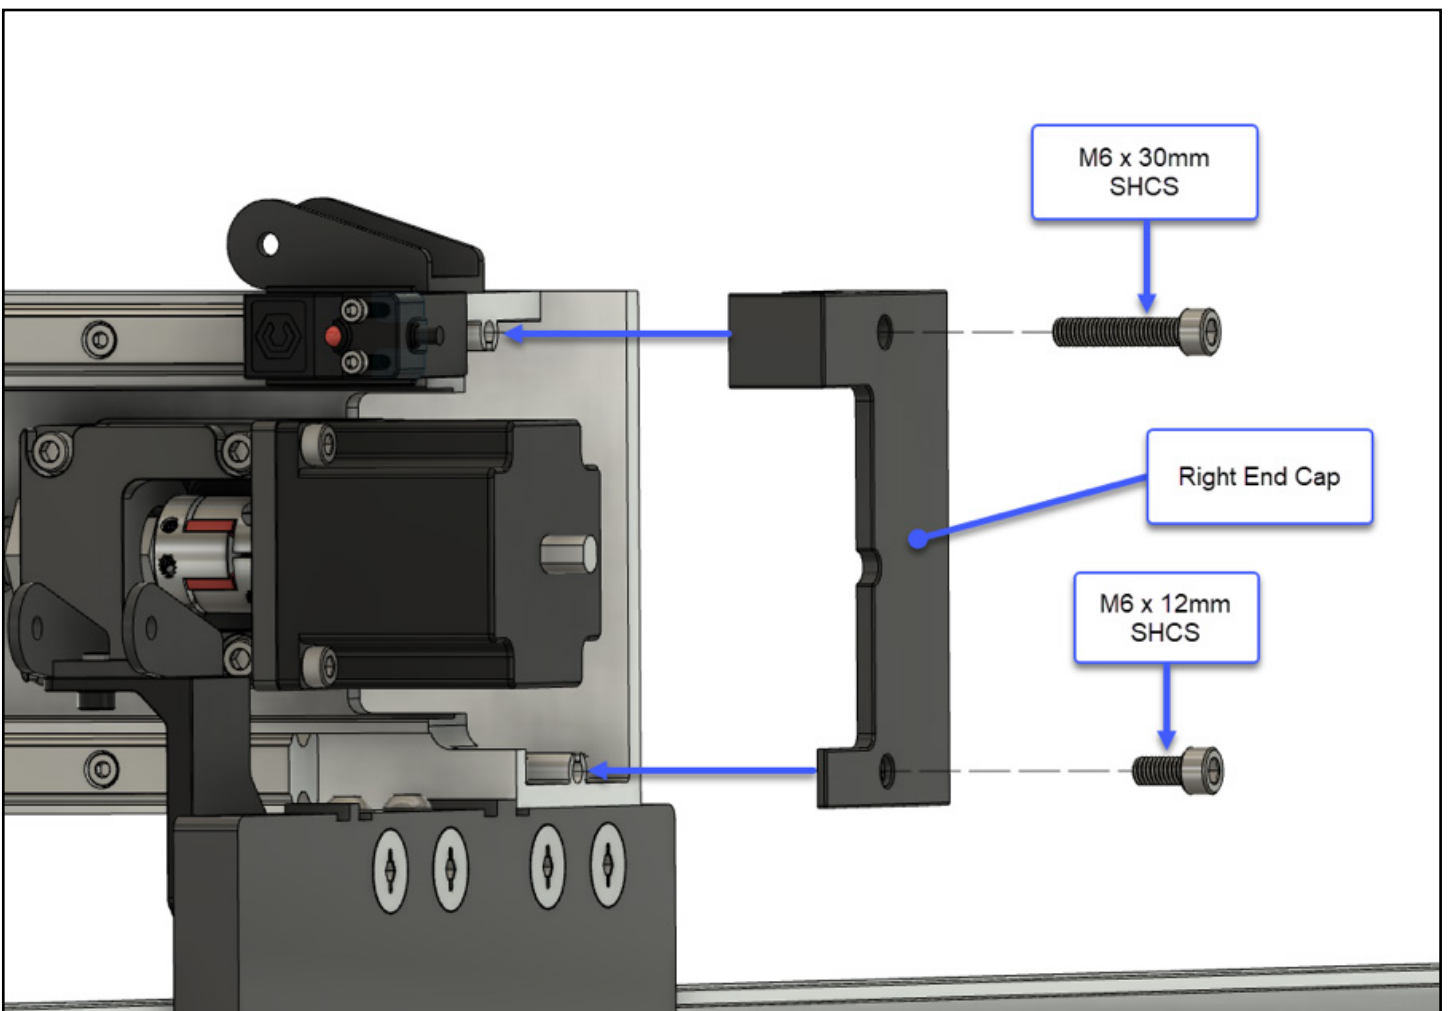
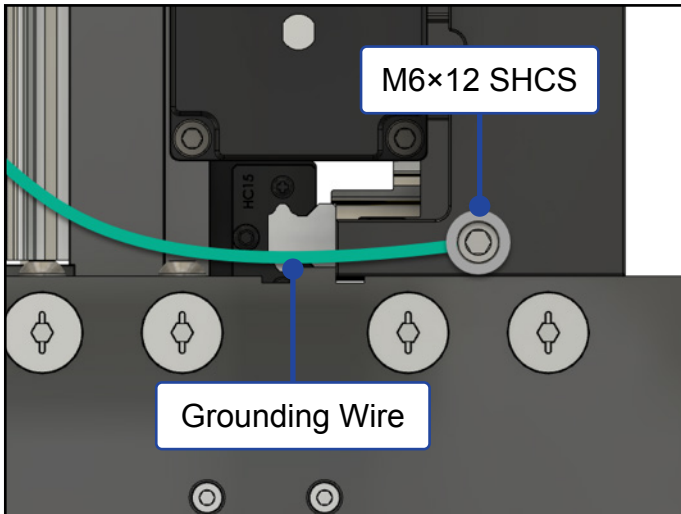

Figure 4-10
Figure 4-12
3. Place the right end cap on the Y-Right end of the gantry extrusion. See **Fig. 4-10**.
4. Use a 5mm hex key to insert one (1) M6×30mm SHCS through the top screw hole.
7. Use a 5mm hex key to insert the M6×12mm SHCS through the bottom screw hole in the end cap. See **Figs. 4-10** and **Fig. 4-12**.